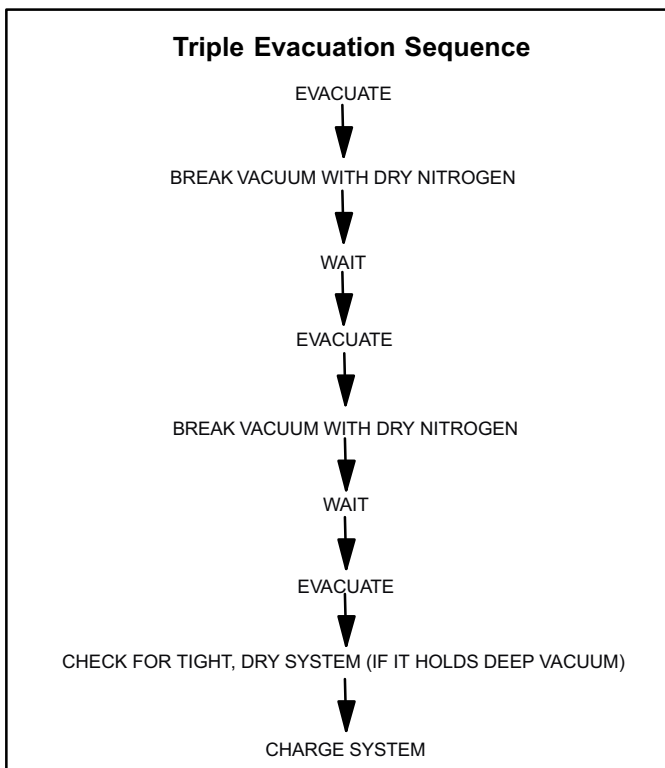

FIGURE 17
The triple evacuation method should only be used when system does not contain any water in liquid form and vacuum pump is only capable of pulling down to 28 inches of mercury (711mm Hg). Refer to figure 17 and proceed as follows:
5. Repeat this procedure as indicated in figure 17.